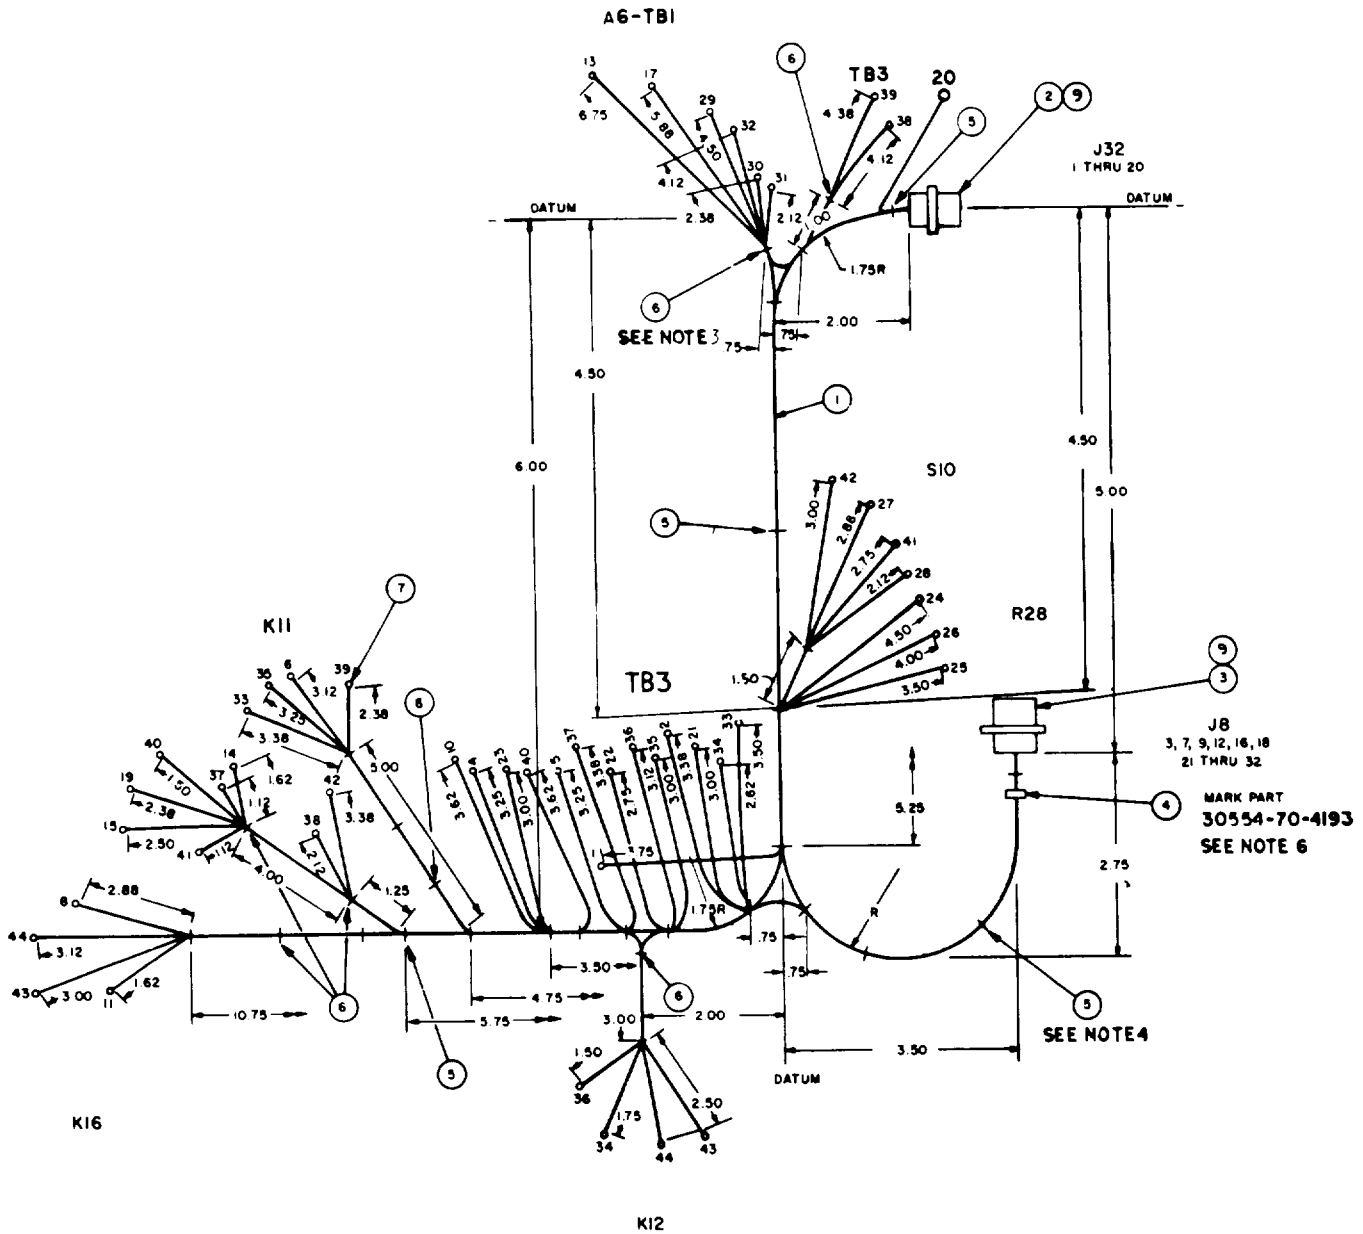

Figure 6-53. Precise relay box (A25), wire harness (sheet 1 of 2)
- a. Repair or fabricate precise relay box wire harness in accordance with figure 6-53.